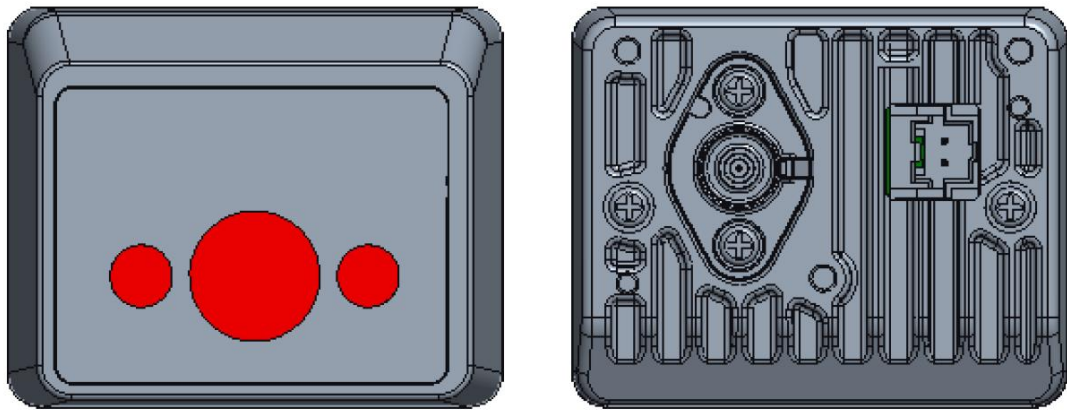

Figure 15
- The camera module is positioned in the direction shown in Figure 15, with the Fakra on the left side, it will be image in the forward direction.